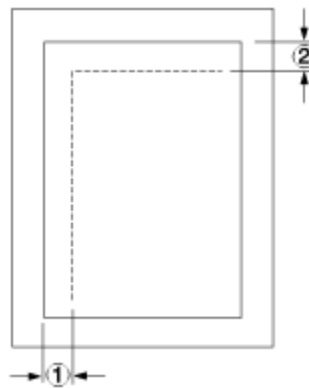

Figure 20. LINEONE Coordinates
“Defining Logical Page Size” on page 32 shows how to define the size of a logical page. The next two examples show you how to position the first line of data inside the logical page by using the LINEONE subcommand. This subcommand position is relative to the logical page origin, as shown in Figure 20 on page 33. The two coordinates, (1) and (2), of the LINEONE parameter define the starting point for the first line of text.